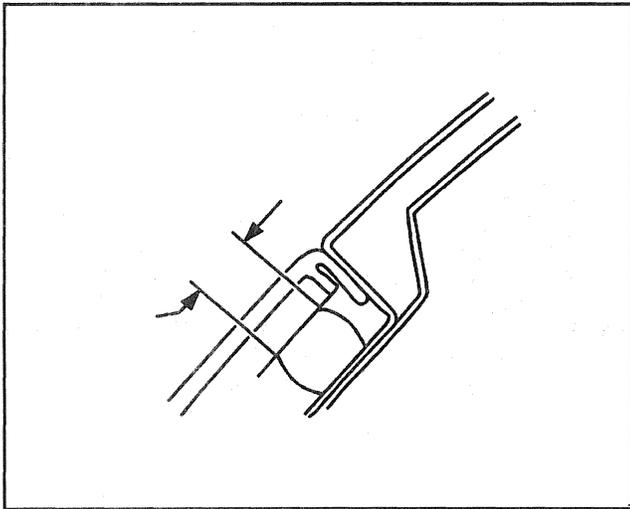

Figure 25—Rear Window Primer Width
2. Clear primer to the window covering an area of 18 mm (3/4 inch) from the edge of the glass (Figure 25).